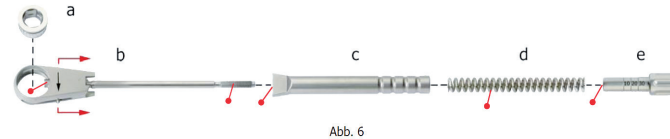

Abb. 6
1. Pulling both pin ends (red arrow) in the direction of the ratchet handle removes the ratchet wheel (Fig. 6-a) from the ratchet head (Fig. 6-b).
2. Unscrew the setting screw (Fig. 6-e) completely from the ratchet handle (Fig. 6-c).
3. Remove the ratchet handle (Fig. 6-c) from the ratchet head (Fig. 6-b) and remove the spring (Fig. 6-d).
2. Insert the ratchet handle (Fig. 6-c) via the threaded rod onto the ratchet head (Fig. 6-b).
3. Insert the spring (Fig. 6-d) in the ratchet handle (Fig. 6-c).
4. Screw in the setting screw (Fig. 6-e) into the ratchet handle (Fig. 6-c) until the resistance of the spring is perceptible.
5. Pulling at both pin ends (red arrows) in the direction of the ratchet handle, sets the ratchet wheel (Fig. 6-a) into the ratchet head (Fig. 6-b). **Do not use force!**